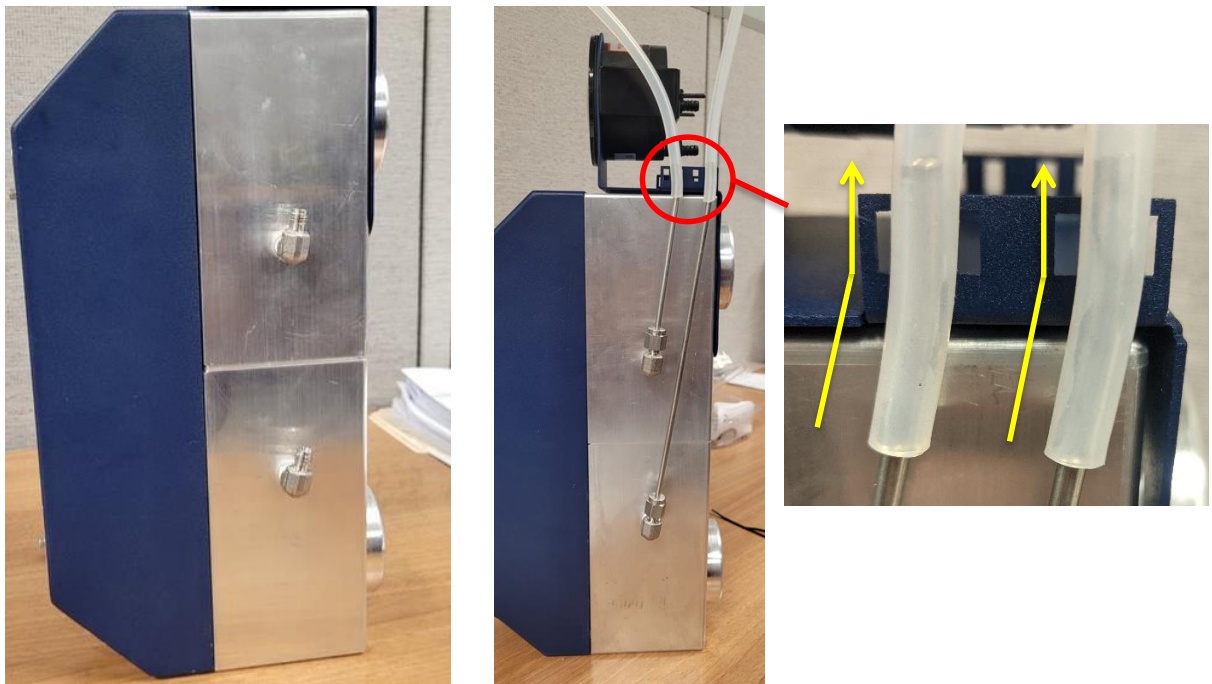

Figure 4 Fittings at correct angle & guide for final position of tubing
- When aligned, attach short Steel/Silicone Tube Assembly to top compression fitting and long Steel/Silicone Tube Assembly to bottom compression fitting. Tighten until finger tight, then use a wrench to complete an additional revolution, making sure that the tubing's final position matches Figure 4 above. **NOTE:** Bend in stainless steel tubing is intended to straighten alignment with adapter plate for mounting zipties in the following step.